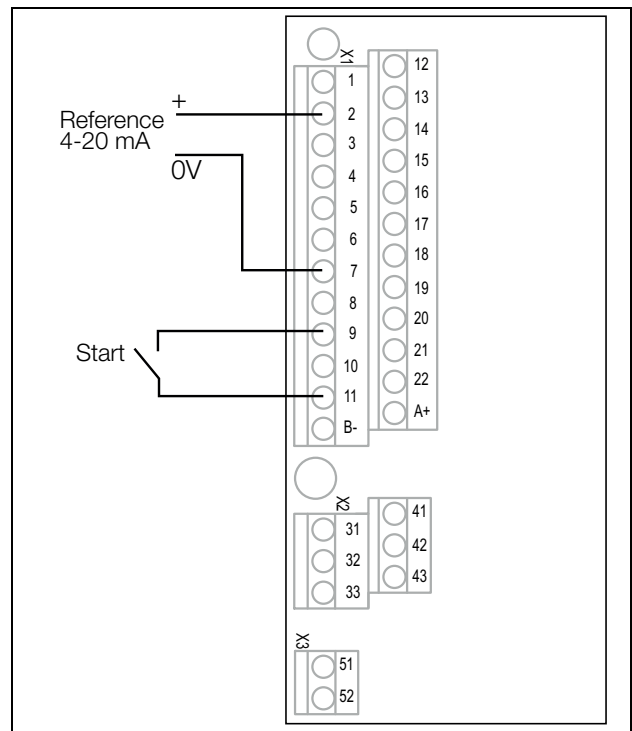

Fig. 74 Wiring.
2. Connect a reference value between terminals 7 (Common) and 2 (AnIn 1) as in Fig. 74.
3. Connect an external start button between terminal 11 (+24 VDC) and 9 (DigIn2, RUNR) as in Fig. 74.
15. Connect digital and analogue inputs/outputs as in Fig. 74.